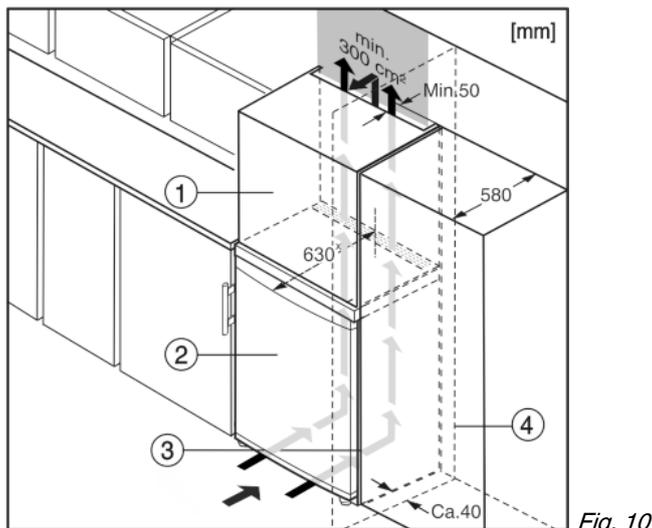

Fig. 10
The appliance can be inserted into a row of kitchen units. To match the appliance Fig. 10 (2) to the height of the row of units, a suitable stack cabinet Fig. 10 (1) can be fitted above the appliance.
When installing with kitchen units (max. depth 580 mm), the appliance can be positioned directly next to the kitchen cabinet Fig. 10 (3). The appliance will project by 34 mmx at the sides and 50 mmx in the centre of the appliance in relation to the kitchen cabinet front.
If the appliance is installed with the hinges next to a wall Fig. 10 (4), the distance between appliance and wall has to be at least 40 mm. This corresponds to the projection of the handle when the door is open.